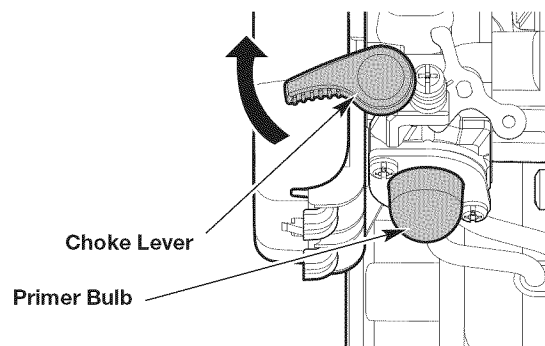

Fig. 7
3. Slowly press and release the primer bulb **10 times** (Fig. 7). If fuel cannot be seen in the primer bulb, press and release the primer bulb until fuel is visible.
4. **DO NOT** squeeze the throttle control. Flip the choke lever clockwise until it clicks (Fig. 7).